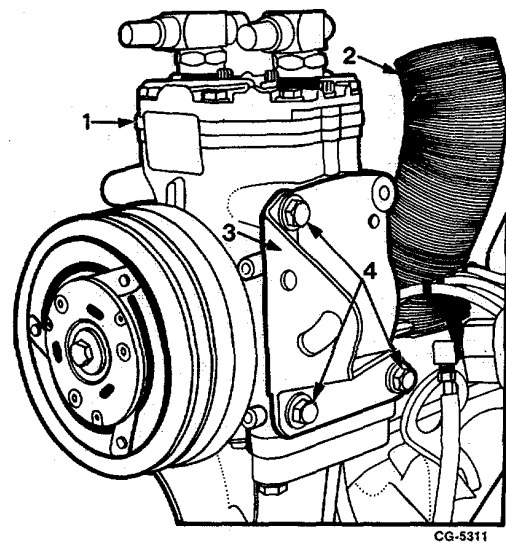

Fig. 18 Removing Freon Compressor Idler Pulley Bracket
13. Remove idler pulley bracket from freon compressor by removing bolts and flat washers, Figure 18.
14. Remove shroud hose from exhaust manifold, Figure 18.